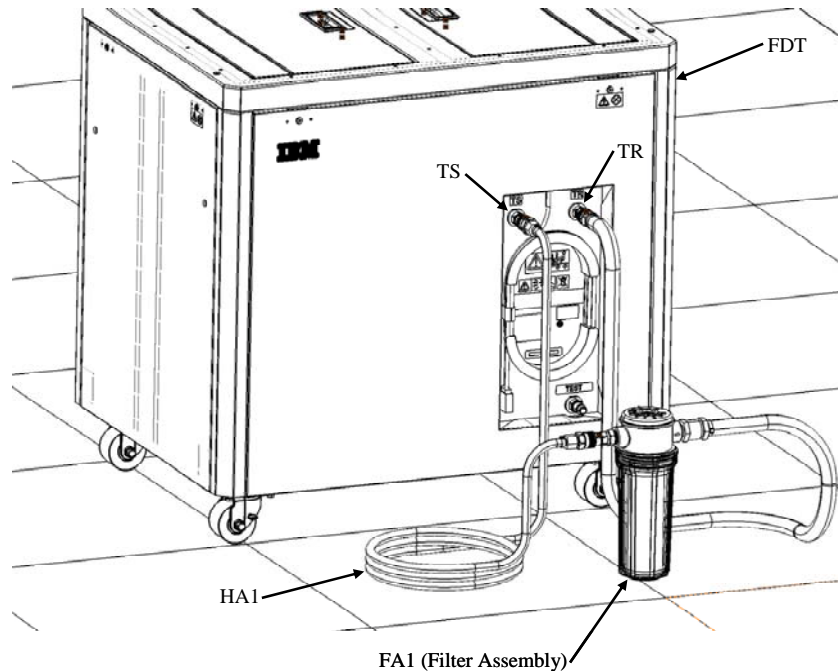

Figure 2: Filter assembly and HA1 connected to FDT
18. Figure 2 shows the filter assembly FA1 connected to the FDT using hose assembly HA1. Connect one end of HA1 to the TS plug on the FDT and connect the other end of HA1 to the plug on the side of the filter housing on FA1. Connect the socket on the end of the hose on FA1 to the TR plug on the FDT.